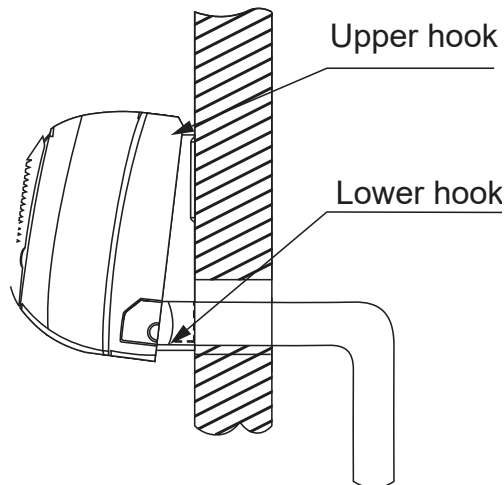

Fig. 26 — Indoor Unit Installation
7. Push the lower part of the indoor unit up on the wall, then move the indoor unit from side to side, up and down to ensure it is hooked securely (see Fig. 26).